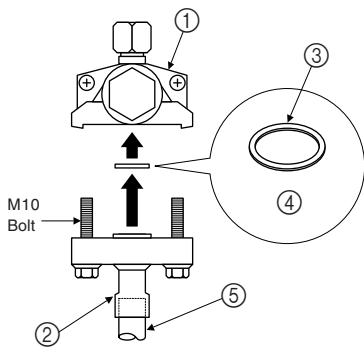

Fig. 5-2
(3) Use the following procedure for connecting the gas-side piping. (Fig. 5-2)